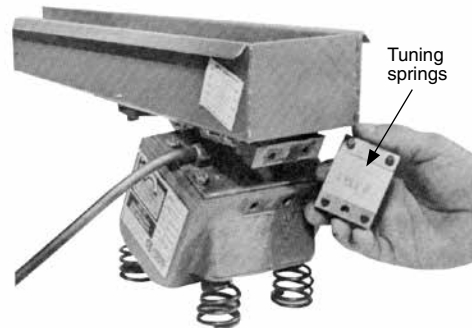

FIGURE 13
3. Remove the alignment plate and install tuning springs in the proper number and ply to give the desired displacement (See Figure 13). See tuning instructions.